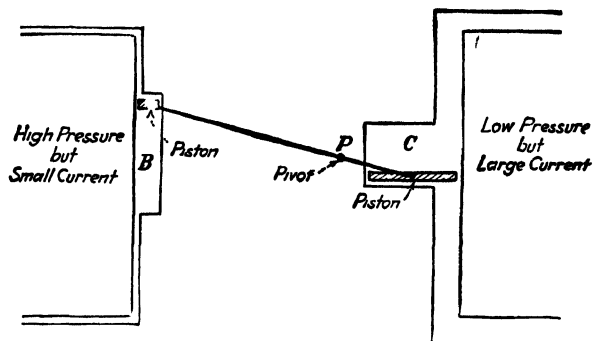

FIG 1-57 The hydraulic transformer
**The Hydraulic Transformer.** To make clear how this is done, the water circuit shown in the left of Fig. 1-57 will be referred to. Since this is an alternating-current circuit the water flows to and fro or back and forth in the circuit. As it does this, it causes the piston in *B* to move up and down. But piston *B* is connected to piston *C* by a rod pivoted at *P*, so that when *B* moves up and down *C* moves down and up. The pressure in *B* is very high and the current of water is small, just like the voltage and current in a long high-voltage transmission line. In *C* it is clear that the pressure will be low and the current of water large, because the size of the piston is so much larger. Such a mechanism could thus be used to transform or step down a water circuit having a high pressure to one having a low pressure. The current on the low-pressure side would be much larger than the current on the high-pressure side.